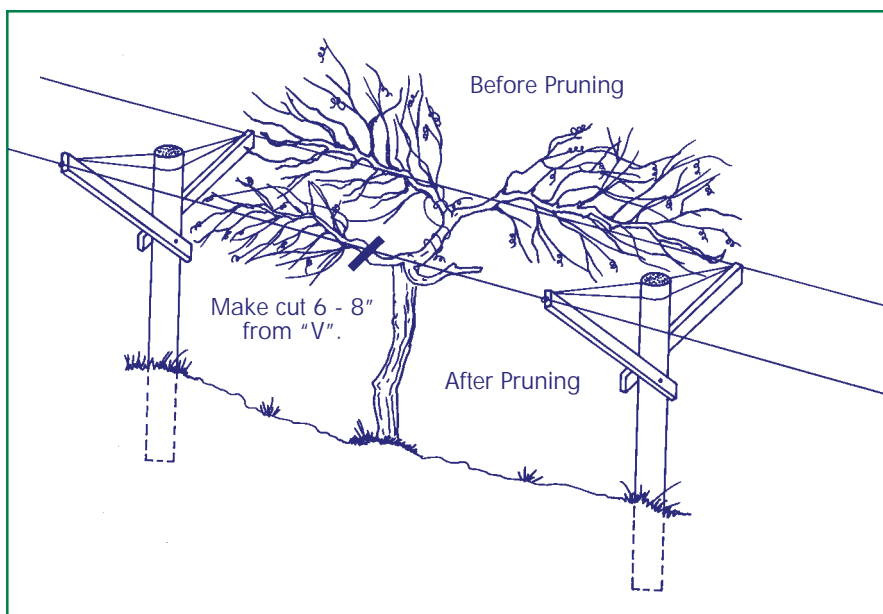

Figure 10. Pruning a neglected vine.
1. Cut away most of the permanent arm (cordon), and leave only a 6-inch "stub" at the head of the vine (Figure 10) for each arm that requires renewal. Use one of the new shoots that will